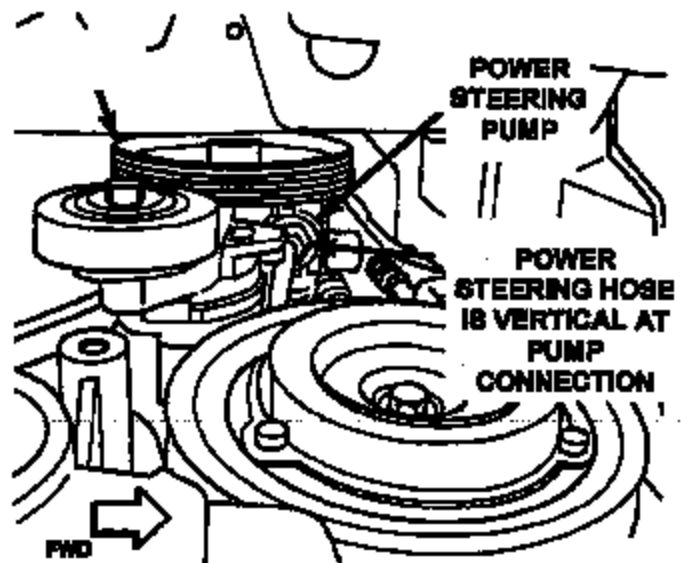

Figure 1 – As viewed from below
**IMPORTANT:** The power steering hose to pump connection orientation changed late in the 2002 model year. For 2002 model year vehicles, inspect the hose connection orientation to determine the proper replacement hose. For hoses with a vertical orientation, order P/N CBTKD182 (Figure 1). For hoses with an angled orientation, order P/N CBTBD181. The two hoses are not interchangeable.